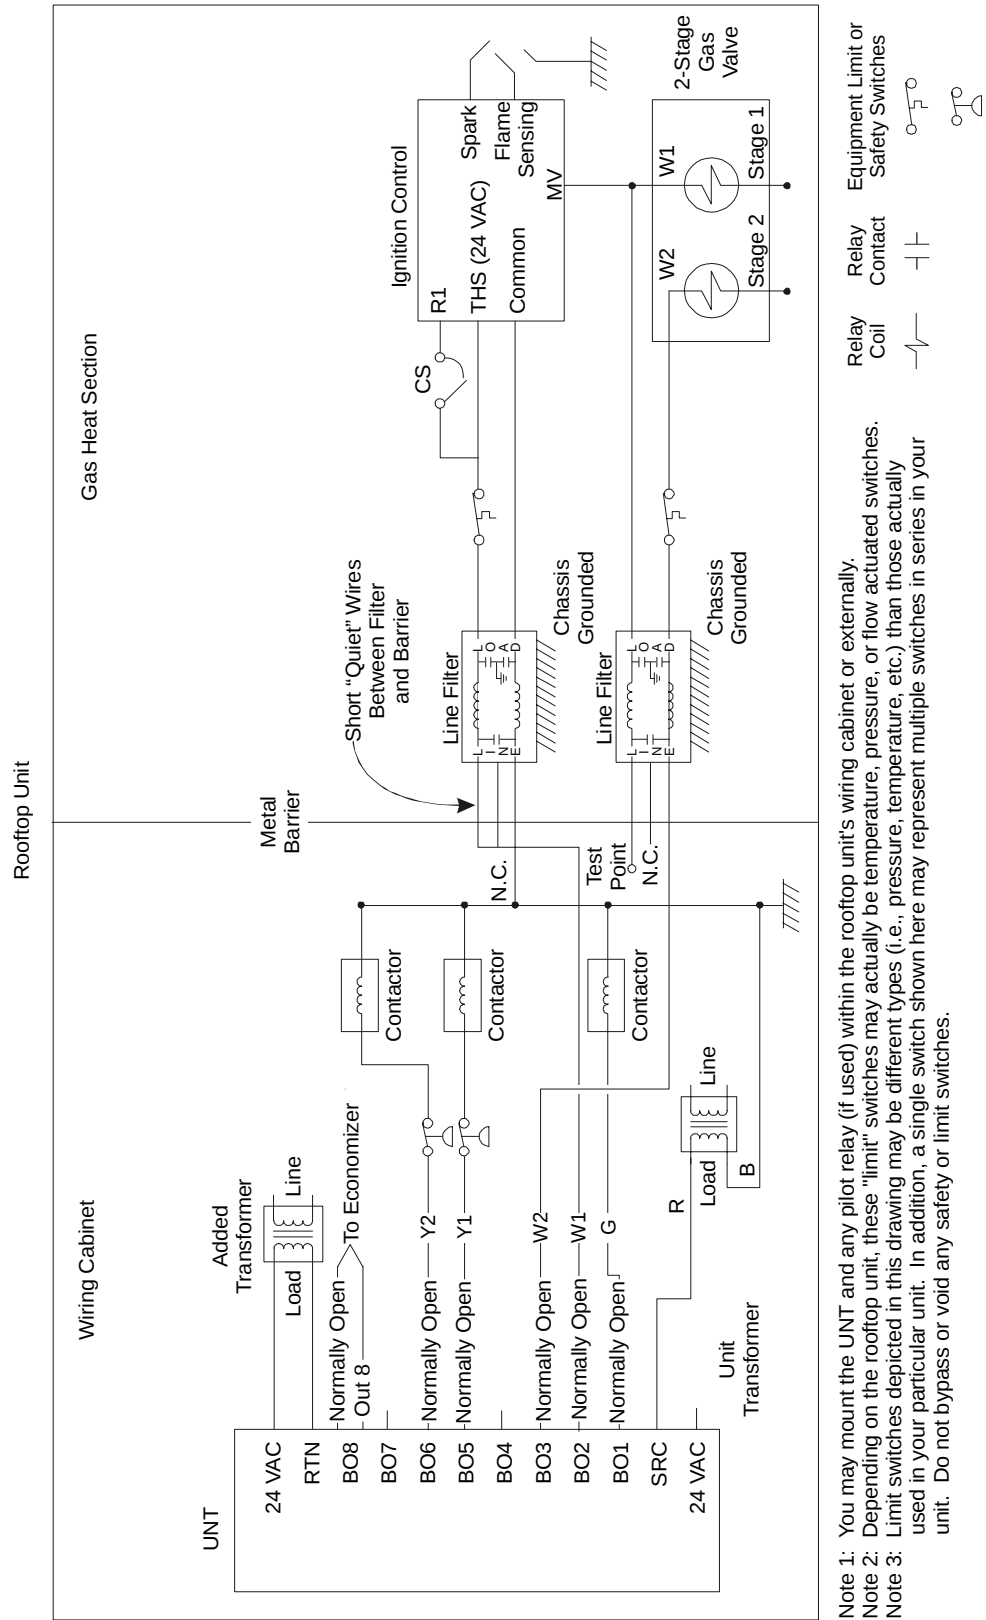

Figure B-1: UNT Directly Driving Loads
When using Rooftop Units containing Gas Ignition Control (see Figure B-1), keep the following things in mind.
3. You may drive rooftop unit contactor/relay loads directly (see Figure B-1) if **all** of the following conditions exist: